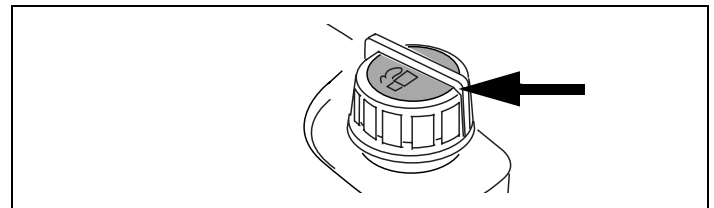

**Figure 38. Disconnecting/Connecting Spark Plug**
1. Carefully disconnect spark plug wire and keep it away from spark plug. See Figures 38 and 39. See "G. Avoid Accidental Starts" instructions on page 2. Afterward, continue reading instructions below.
15. Carefully disconnect spark plug wire from grounding post, if provided. See Figures 38 and 39 on page 18. See "G. Avoid Accidental Starts" instructions on page 2. Afterward, continue reading instructions below.
16. Connect spark plug wire to spark plug before attempting to start engine. See Figures 38 and 39 on page 18.